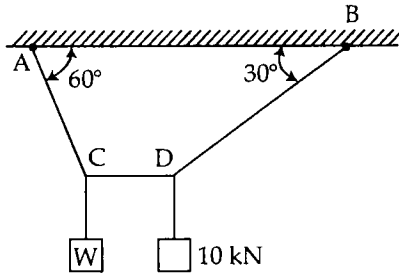

Fig. 2
- (b) A cord tied at A and B carries a load of 10 kN at D and W at C as shown in the fig.2. Find the value of W so that part CD remains horizontal.